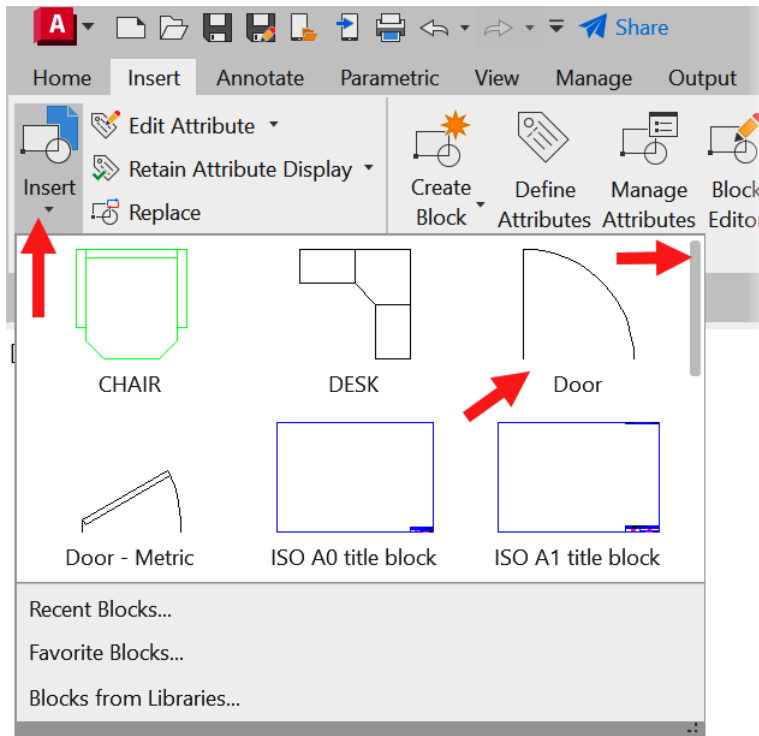
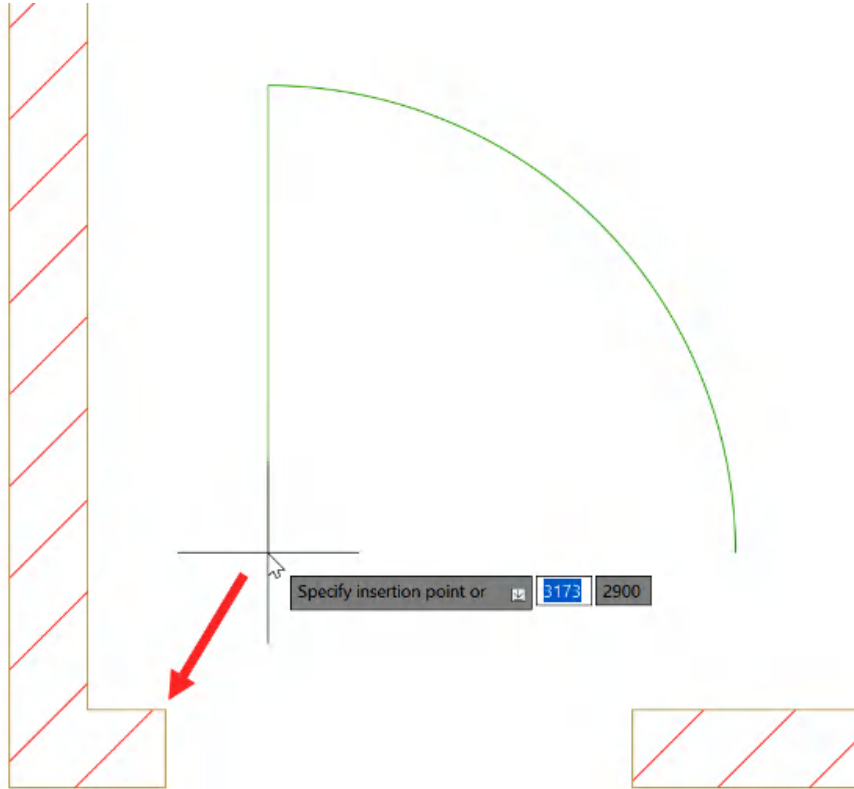

Figure 9.4: The Insert drop-down menu displaying available blocks
Figure 9.5: The Door block waiting on an insertion point
1. Make sure the drawing has been saved. Use the **Save** icon on the **Quick Access Toolbar**. Do this before selecting the **Insert** tab on the ribbon. This will ensure that the **Door** block is saved in the DWG file. Then, click on the **Insert** drop-down arrow, as shown in *Figure 9.4*. You will see available blocks in the drawing file, and there is a slider bar on the right to see further block content.
2. Click on the **Door** block on the **Insert** drop-down menu, as indicated in *Figure 9.4*. The **Door** block will appear on your cursor, and you will be prompted for an insertion point, as shown in *Figure 9.5*. Select the corner of the wall indicated by the arrow in *Figure 9.5* using the **Endpoint** object snap.